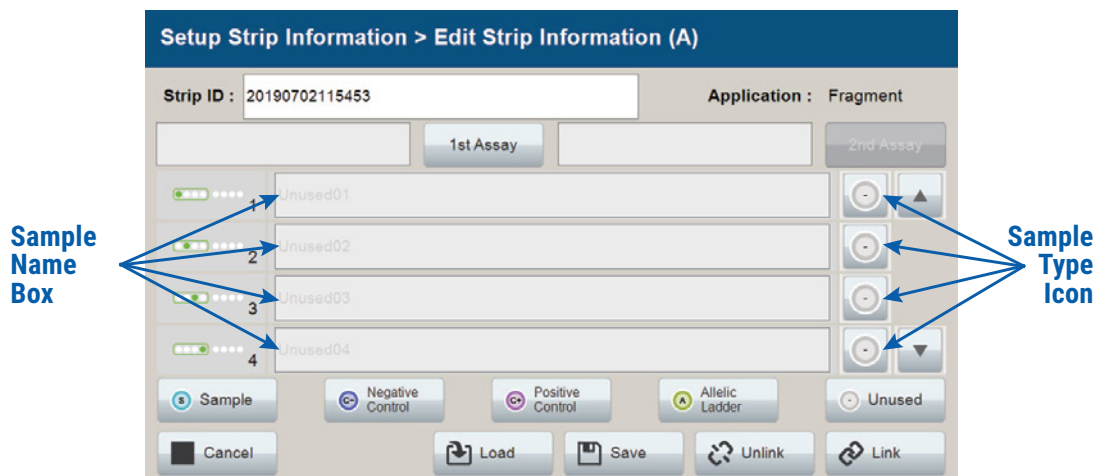

Figure 10. 'Edit Strip Information' screen.
2. Select a lane icon (A, B, C or D) to enter information for that 8-well strip tube. This opens the 'Edit Strip Information' screen for that lane (Figure 10). This screen displays fields for defining the Strip ID, run assay, sample name and sample type for that lane. Each well in the strip is represented along the left side of the screen. The first injection set of the strip (Wells 1–4) is displayed on the screen. You can use the arrows on the right side of the screen to scroll to the second injection set (Wells 5–8).